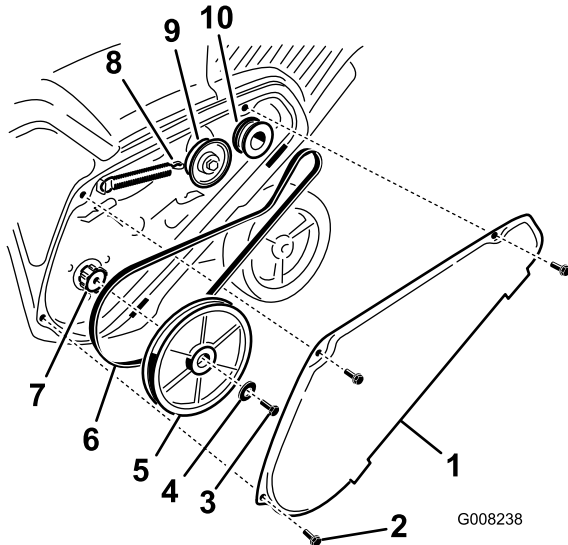

Figure 36
Note: Route the new drive belt first around the engine pulley, then the idler pulley, and finally around the loose rotor pulley positioned just above the rotor shaft (Figure 36).
6. Install the rotor pulley onto the rotor shaft (Figure 36).
7. Install the curved washer and the rotor pulley bolt and tighten them securely (Figure 36).
2. Unhook the brake spring from the idler arm to release the belt tension (Figure 36).
3. Remove the screw and curved washer that holds the rotor pulley (Figure 36).
4. Remove the rotor pulley and the drive belt (Figure 36).